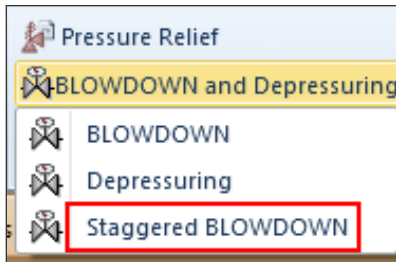

Figure 1:
1. On the Home tab, click on the dropdown next to **BLOWDOWN and Depressuring** and select **Staggered BLOWDOWN** (Figure 1).